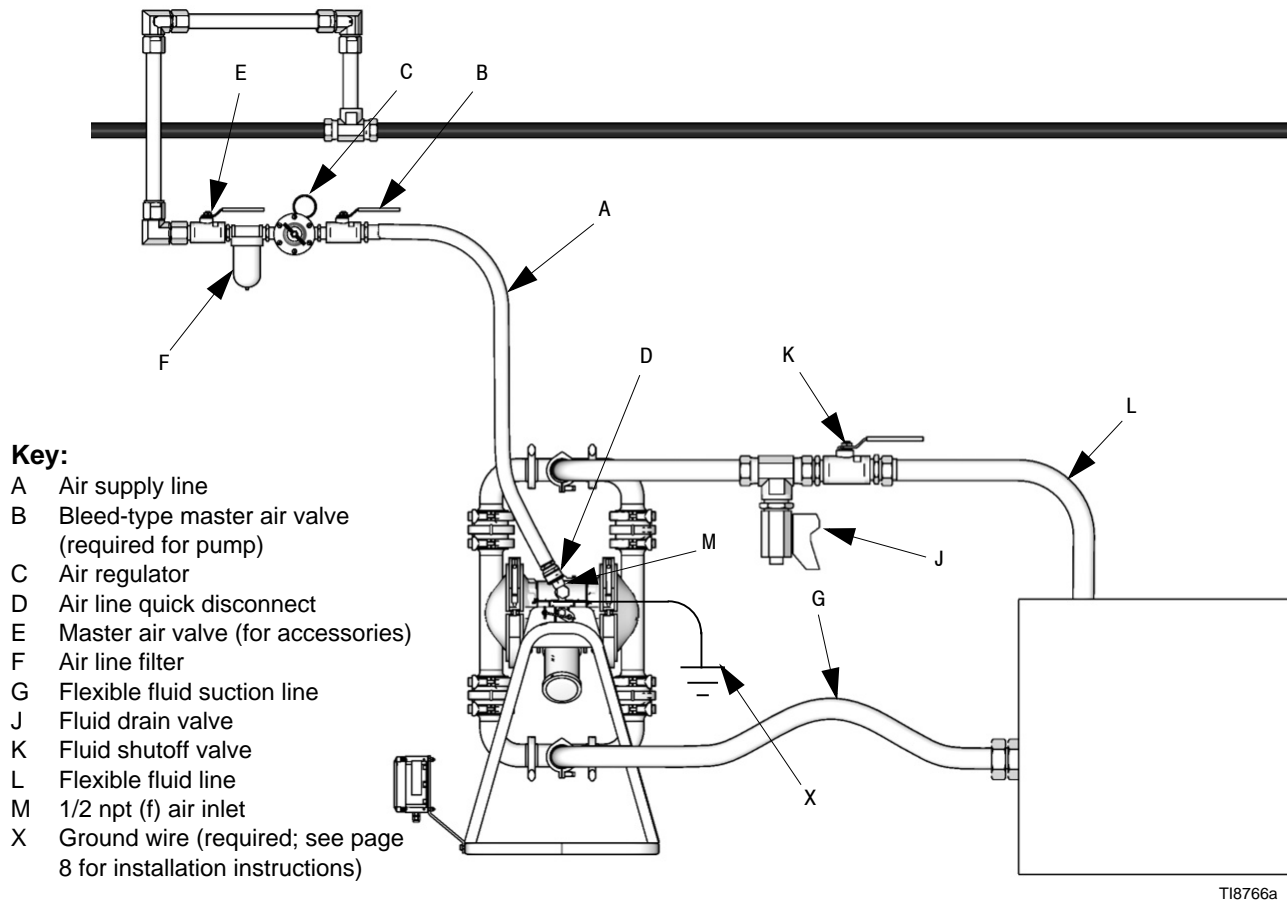

FIG. 3: Typical Floor-Mount Installation
- The typical installation shown in FIG. 3, page 10, is only a guide for selecting and installing system components. Contact your Verder representative for assistance in planning a system to suit your needs.
1. Install the air line accessories as shown in FIG. 3. Mount these accessories on the wall or on a bracket. Be sure the air line supplying the accessories is grounded.
- a. Install an air regulator (C) and gauge to control the fluid pressure. The fluid outlet pressure will be the same as the setting of the air regulator.
- b. Locate one bleed-type master air valve (B) close to the pump and use it to relieve trapped air. Be sure the valve is easily accessible from the pump and located downstream from the regulator.
1. Use flexible, grounded fluid hoses (L) where possible.
3. Install a fluid drain valve (J) near the fluid outlet. See FIG. 3.
4. Install a shutoff valve (K) in the fluid outlet line.